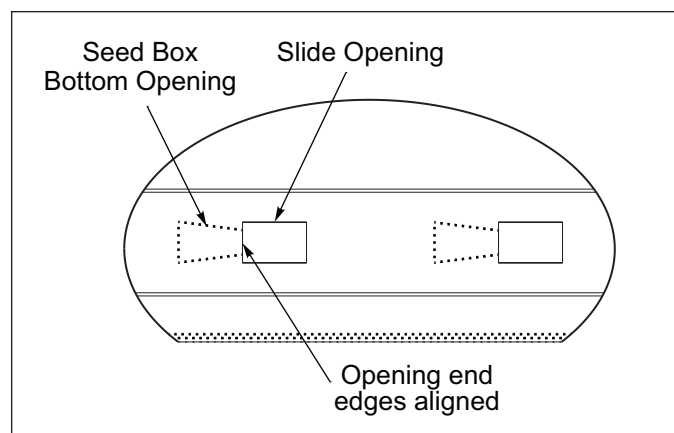

Figure 4-9: Shifter Handle Set at "0"
- When the Shifter Handle is set to "0" (closed), the Agitator Box bottom opening end edge is aligned with the Slide opening end edge. **See Figure 4-9.**